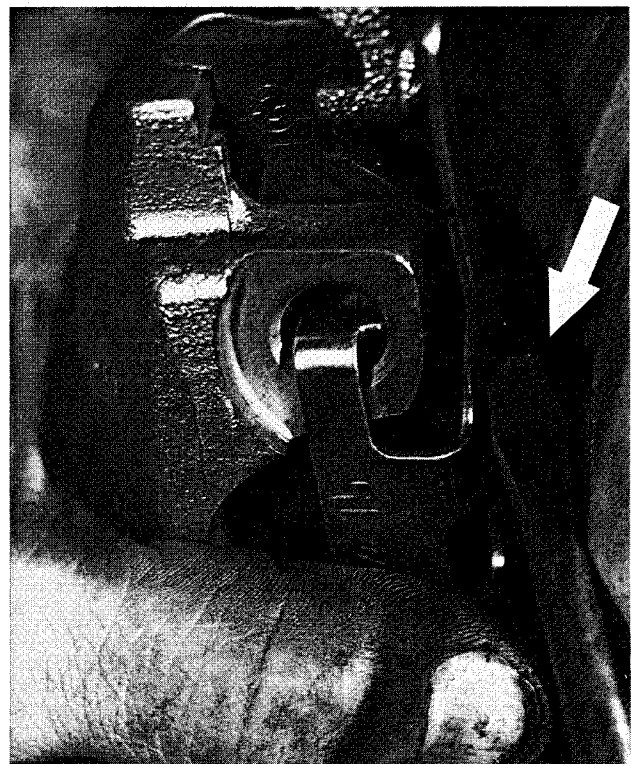

Fig. 4. Removing anti-rattle clip by unhooking at top and bottom. Use screwdriver as aid (arrow).
4. Remove anti-rattle clip from caliper. See Fig. 4.